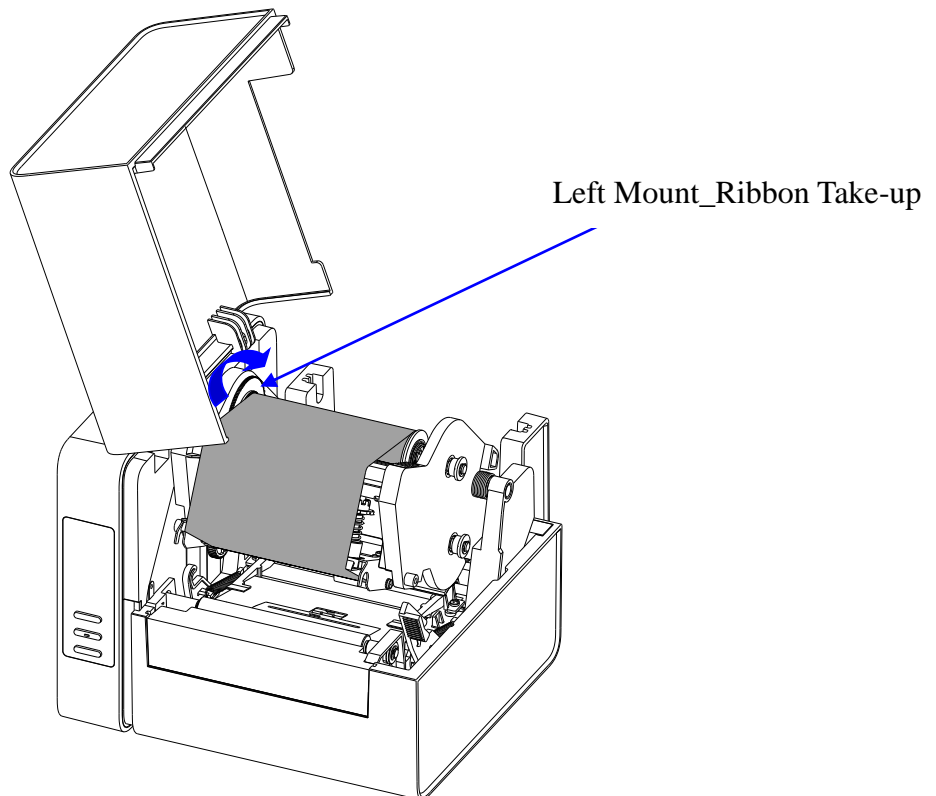

Figure 2-12 Ribbon Roll loaded
8. Turn the Left Mount of Ribbon Take-up to ensure the ribbon is tight and smooth, see Figure 2-12. The ribbon installation is complete.